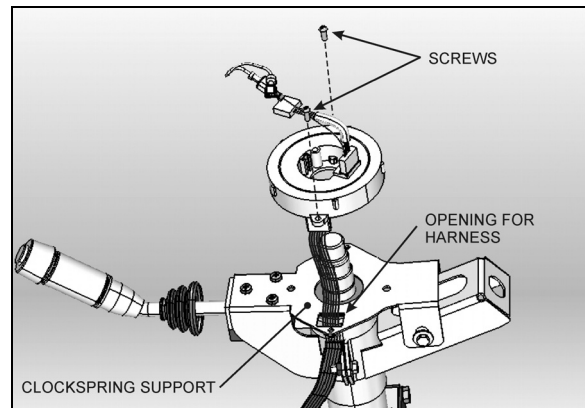

FIGURE 12: CLOCKSPRING INSTALLATION
3. Route the new clockspring harness through the opening in the clockspring support (Fig. 12). Plug the connector at the base of the